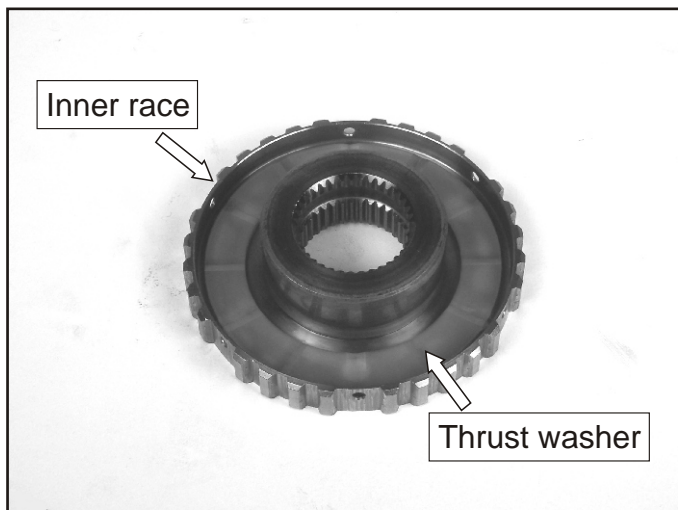

Figure 134
81. Assemble the inner thrust washer into the inner sprag race as shown in Figure 134.